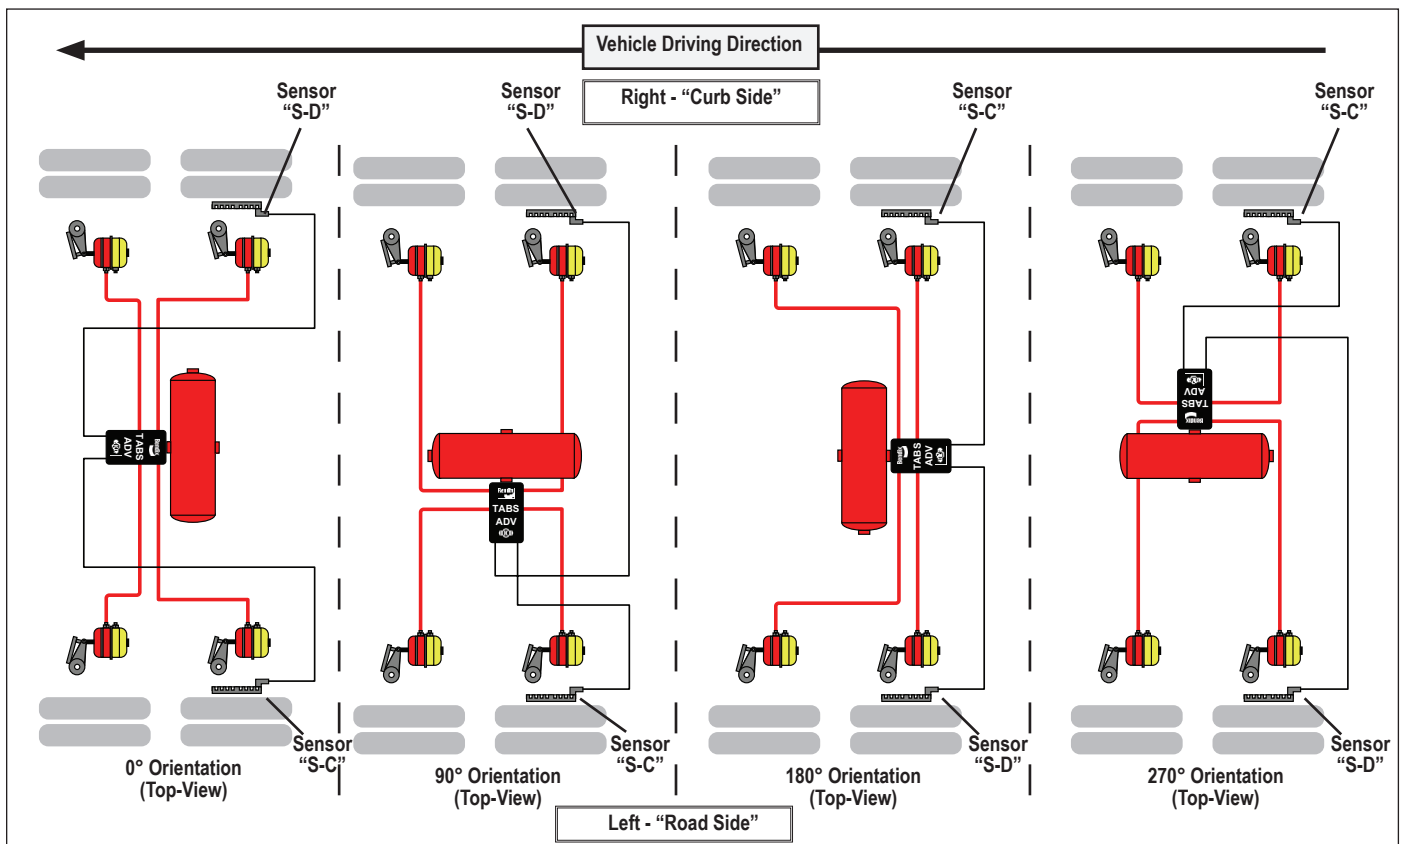

FIGURE 18 - WHEEL SPEED SENSOR INSTALLATION
Note: The wheel speed sensors must follow the orientation of the module as shown in Figure 18 for fixed axle trailers.
- If the wheel sensor location does not match the orientation of the Bendix® TABS-6™ Advanced module shown in Figure 18, a Diagnostic Trouble Code (DTC) will be generated and the ABS indicator lamp will be illuminated.